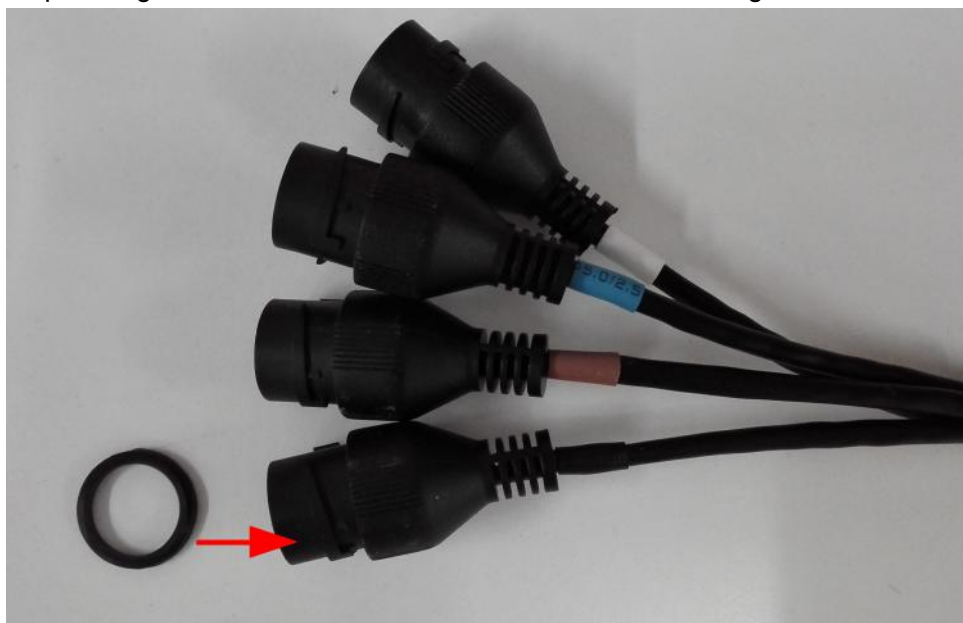

Figure 3-7
- 3) Put the plastic gasket to the head of the network cable. See Figure 3-7.